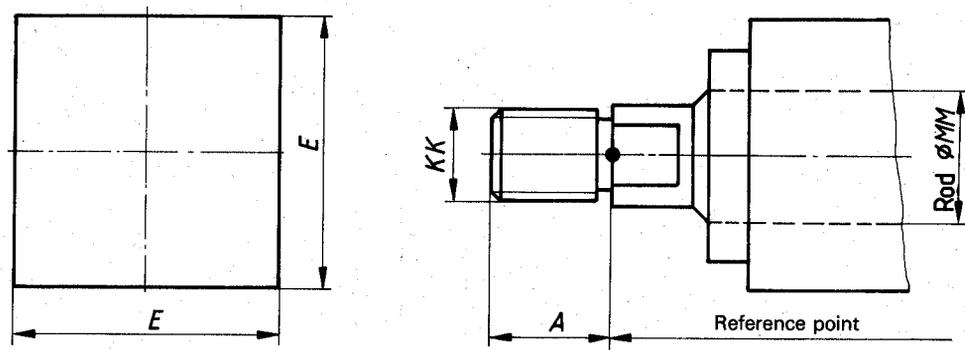

Figure 1 — General dimensions
7.1 This International Standard covers piston rods having a shouldered male thread end (see figure 1 and table 1 for basic dimensions).